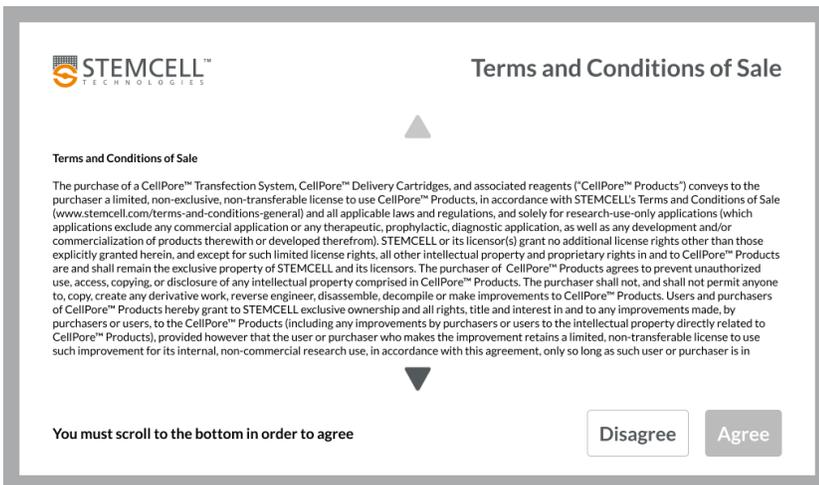

Figure 20. Terms and Conditions of Sale
- When CellPore™ Transfection System is started for the first time, or a new user profile is created, the Terms and Conditions of Sale are displayed (Figure 20). Read the agreement in full by scrolling to the end. Tap “Agree” to proceed.
4. Review and accept the Terms and Conditions of Sale (Figure 20) to proceed with the creation of a new User Profile.